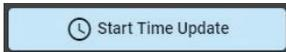

Figure 35.
**Step 6:** Click the 'Start Time Update' to apply the template. (Figure 35) You will see the status change from pending, to In progress, to 'Completed Successfully'. You will notice your SER time setup template will be shown under the 'Template' column for each device the template was applied to.